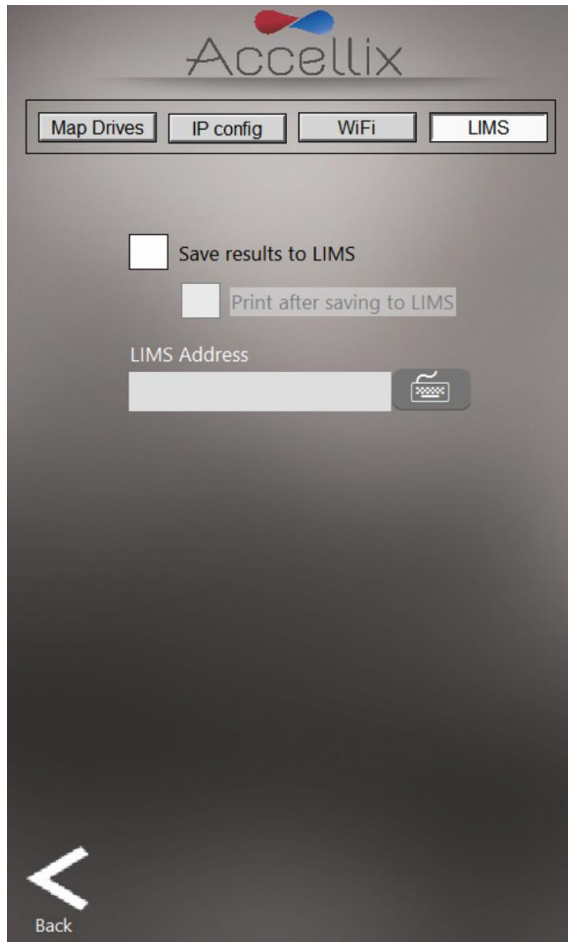

Figure 28: Network Screen: LIMS tab
4. To configure a system to save data to the LIMS system, select the LIMS tab (Figure 28) to enable the system to save data to the LIMS system: